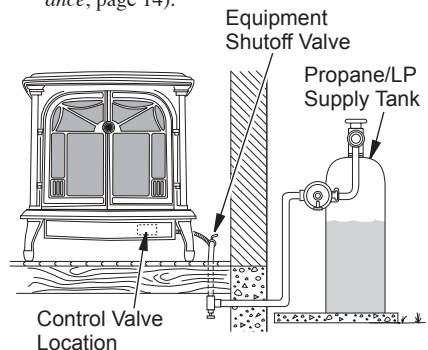
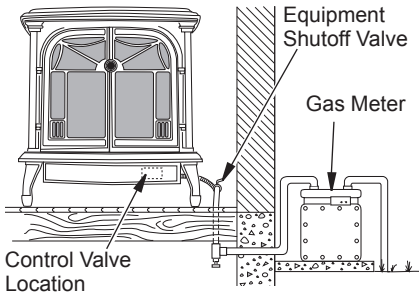

Figure 10 - Checking Gas Joints on Propane/LP Gas Unit
Figure 11 - Checking Gas Joints on Natural Gas Unit
3. Check all joints from gas meter for natural or propane/LP supply to equipment shutoff valve (see Figure 10 or Figure 11, page 10). Apply noncorrosive leak detection fluid to gas joints. Bubbles forming show a leak.
4. Check all joints from equipment shutoff valve to control valve (see Figure 10 or Figure 11, page 12). Apply noncorrosive leak detection fluid to gas joints. Bubbles forming show a leak.